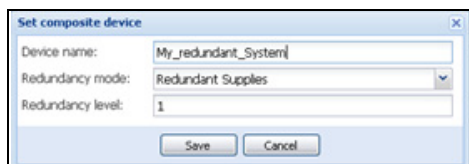

Figure 58. Set Composite Device Dialog Box
4. In the dialog box, specify a device name, redundancy mode, and level (see Figure 58):